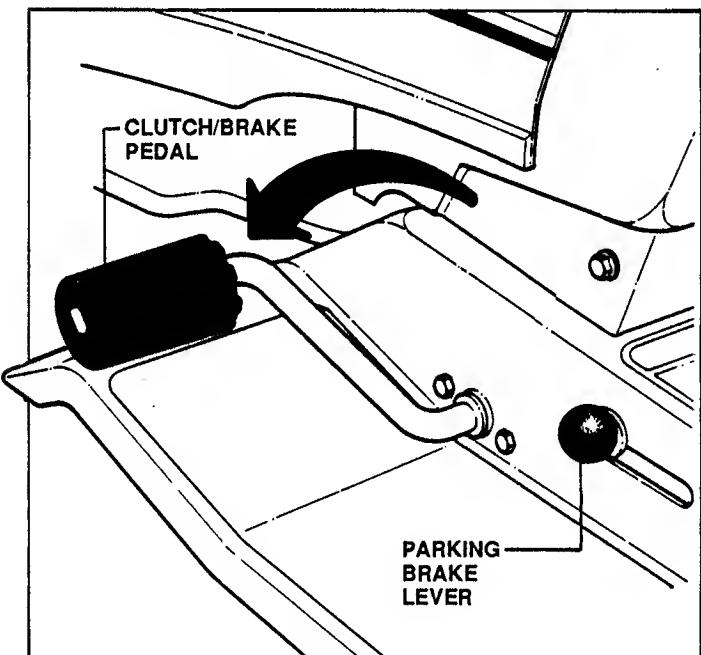

FIGURE 3
**WHEEL DRIVE: STOP FORWARD MOTION** of mower by pushing Clutch/Brake pedal all the way down. See Figure 3.